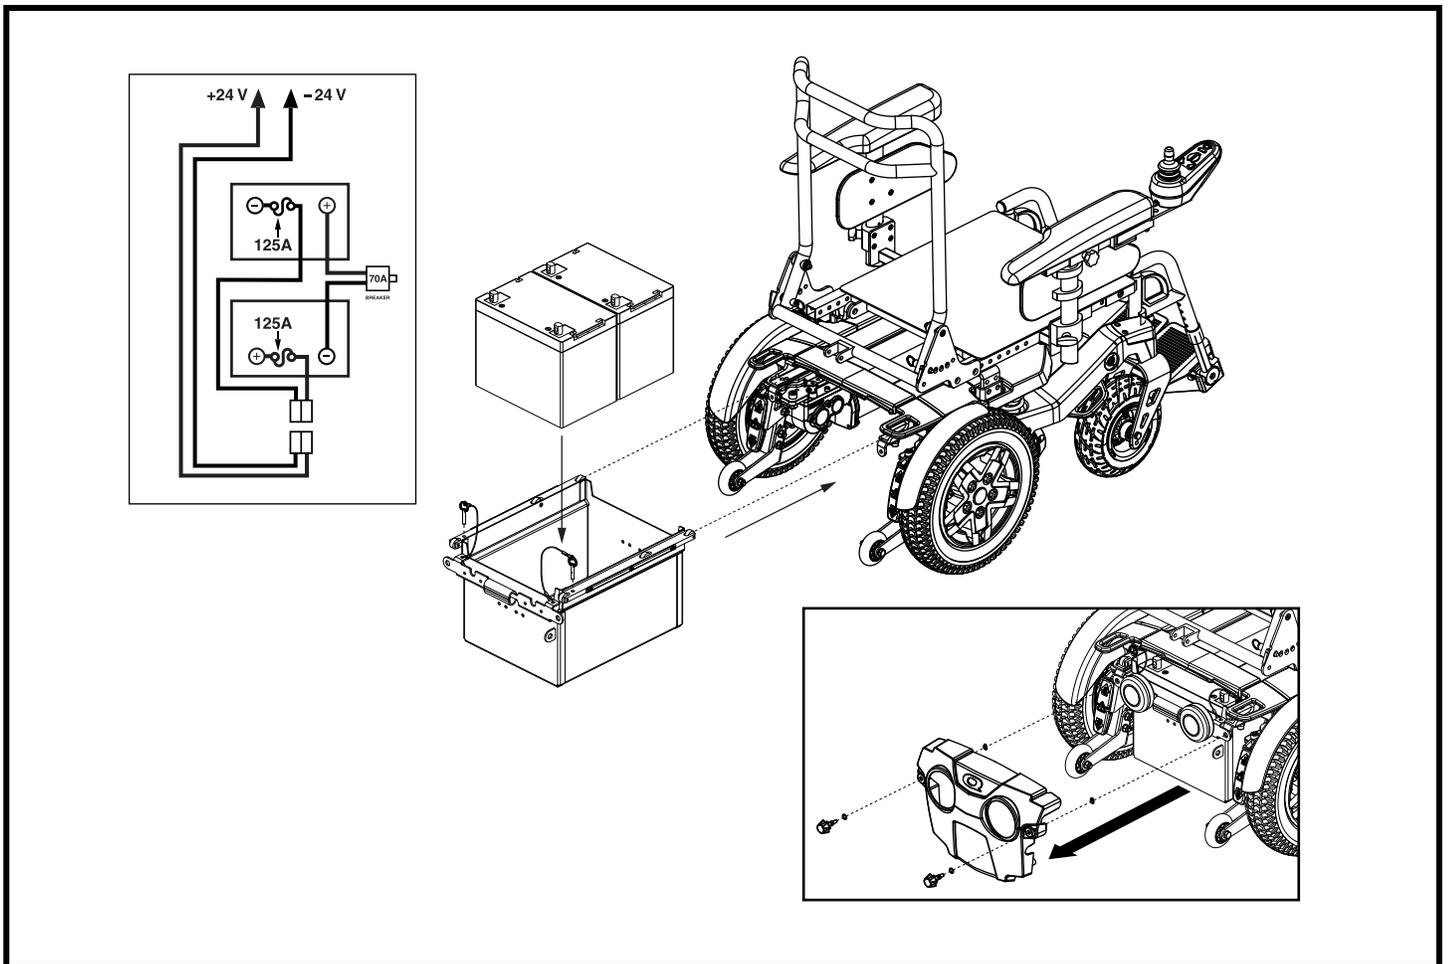

Figure 26. Battery Replacement
A battery wiring diagram is printed on a decal located on the battery door. See figure 26. Refer to the specifications table for correct battery specifications.
3. Loosen the battery knobs and remove the rear battery door. **See figure 26.**
4. Pull up and remove the battery tray safety pins. **See figure 26.**
5. Locate the battery quick disconnect on the frame and disconnect it. **See figure 26.**
10. Connect the battery quick disconnect according to the battery wiring diagram label located on the frame. **See figure 26.**